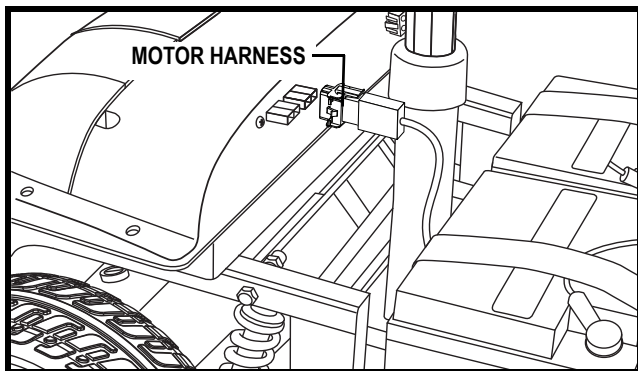

Figure 20. Motor Harness
**NOTE:** There is no need to disconnect the motor harness when disassembling the scooter. See figure 20.